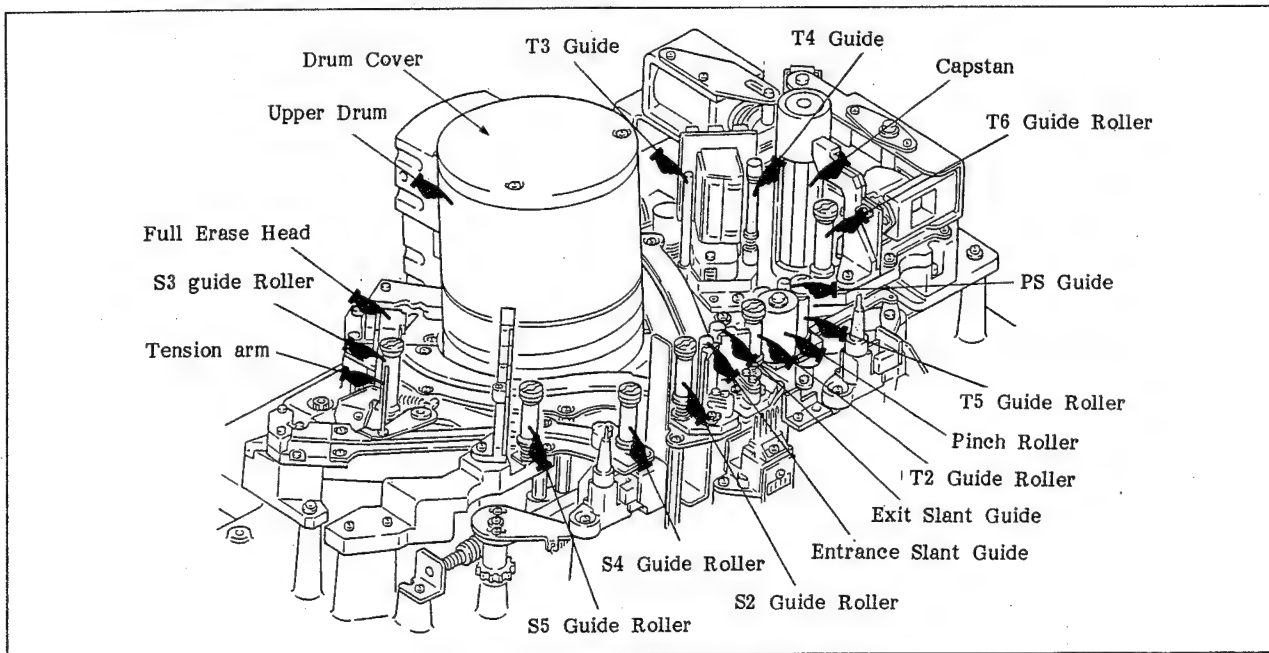

Fig. 5-4 Cleaning the Tape Running System
1. Clean the portions marked by  shown in Fig. 5-4, with a cloth (or gauze) moistened with alcohol.
5. Confirm that the RF waveform meets the standard shown in Fig. 5-4. If it does not meet the standard, perform the tracking adjustment according to section 9-5-2.